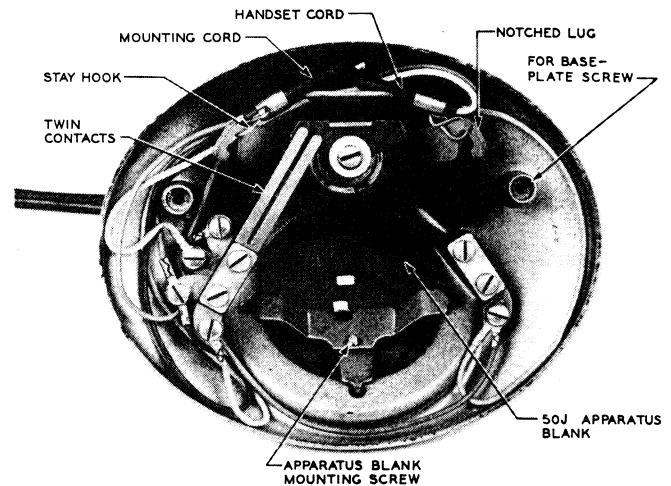

Fig. 8 — Assembly of D-type Handset Mounting (Manual)
6.01 The D-type handset mounting is normally used with types 202, 203, 206, 207, and 215 hand telephone sets (see Fig. 8 and 9).